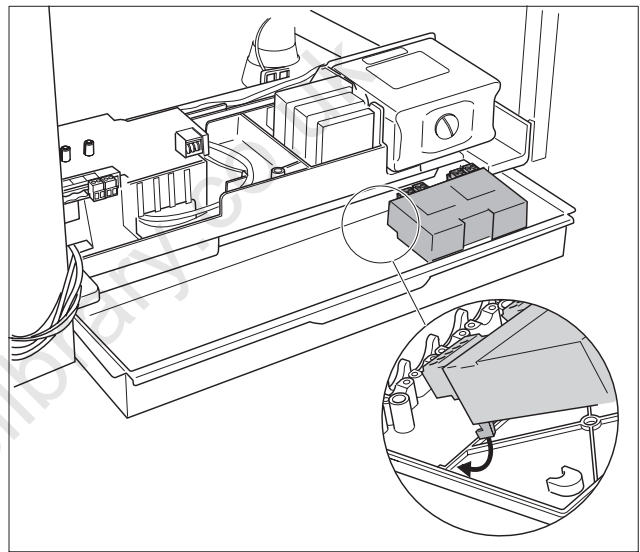

fig. 60 Clicking the function module into place in the wall bracket
- Click the function module(s) into place in the wall bracket (fig. 60).